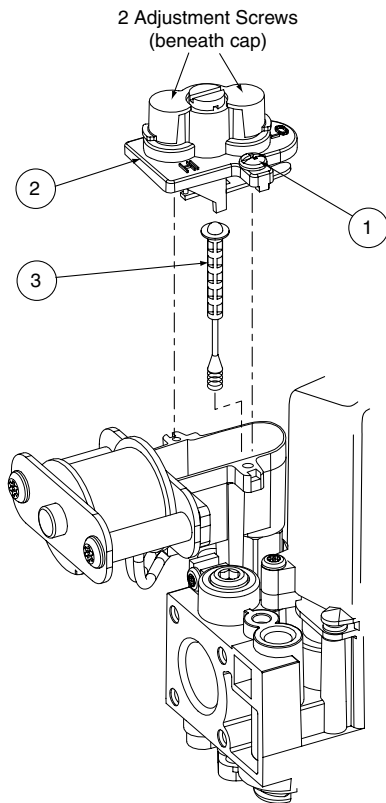

Figure 4. Spring / Stem Assembly Removal
1. Remove two screws (1) securing the pressure regulator cover assembly (2) to the gas valve. See Figure 4.
2. Remove the pressure regulator cover assembly (2) from the gas valve.
3. Remove and discard the existing stem/spring assembly (3) from the gas valve.
4. Install the replacement stem/spring assembly (3) from the conversion kit.
5. Reinstall the pressure regulator cover assembly (2) onto the gas valve.
6. Install the two screws (1) and tighten.